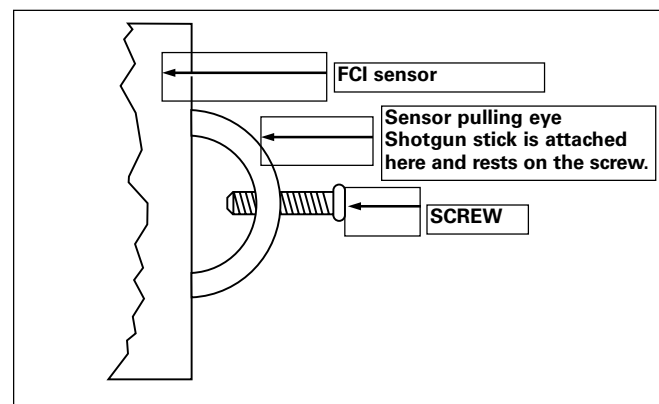

Figure 7. Installation of the screw on the fci sensor pulling eye
5. **If the shotgun stick interferes with a high sill, etc., and requires it to be held at an angle, a screw has been included with the FCI.** Mount the screw on the end of the pulling eye (Refer to Figure 7.)